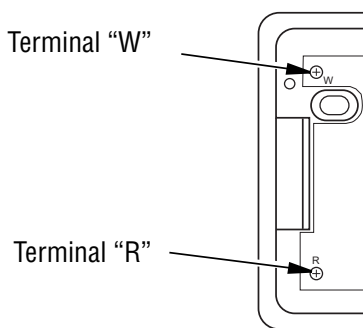

Figure 31 - Thermostat Base Terminals “W” and “R”
6. Connect one bare wire end to each terminal (“W” and “R”) of the thermostat base (see **Figure 31**).